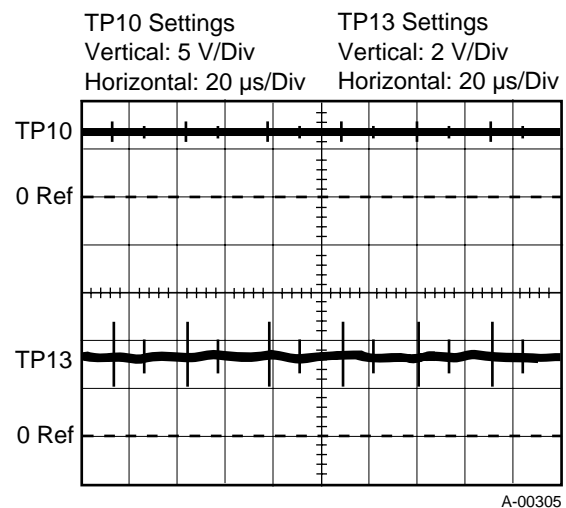

Figure 4-S Output Detection Voltage at TP13
- g. Turn amperage (A) control fully clockwise. The current indicated should be 410 amperes (± 5).
- d. Turn amperage (A) control fully clockwise.
- e. Set OUTPUT CONTACTOR selector to ON position. The voltage should go from approximately 0 volts to 7 volts (refer to Figure 4-S)